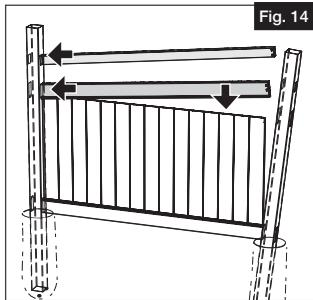

Fig. 14
- a. Attach middle rail into left side of post route only then guide rail over boards. Insert top rail into left post route holes of first post only (Fig. 14).